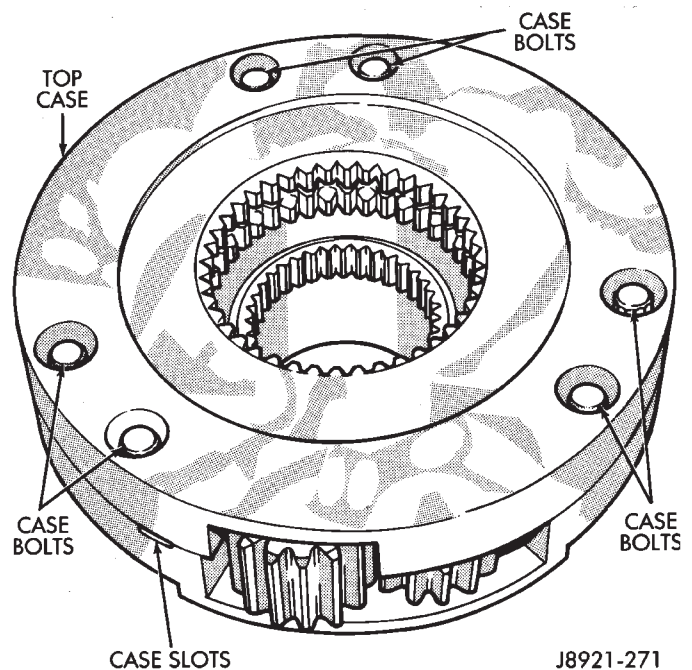

Fig. 45 Separating Differential Case Halves
- (1) Mark differential case halves for reference.
- (2) Remove differential case bolts.
- (3) Invert differential on workbench.
- (4) Separate top case from bottom case. Use slots in case halves to pry them apart (Fig. 45).